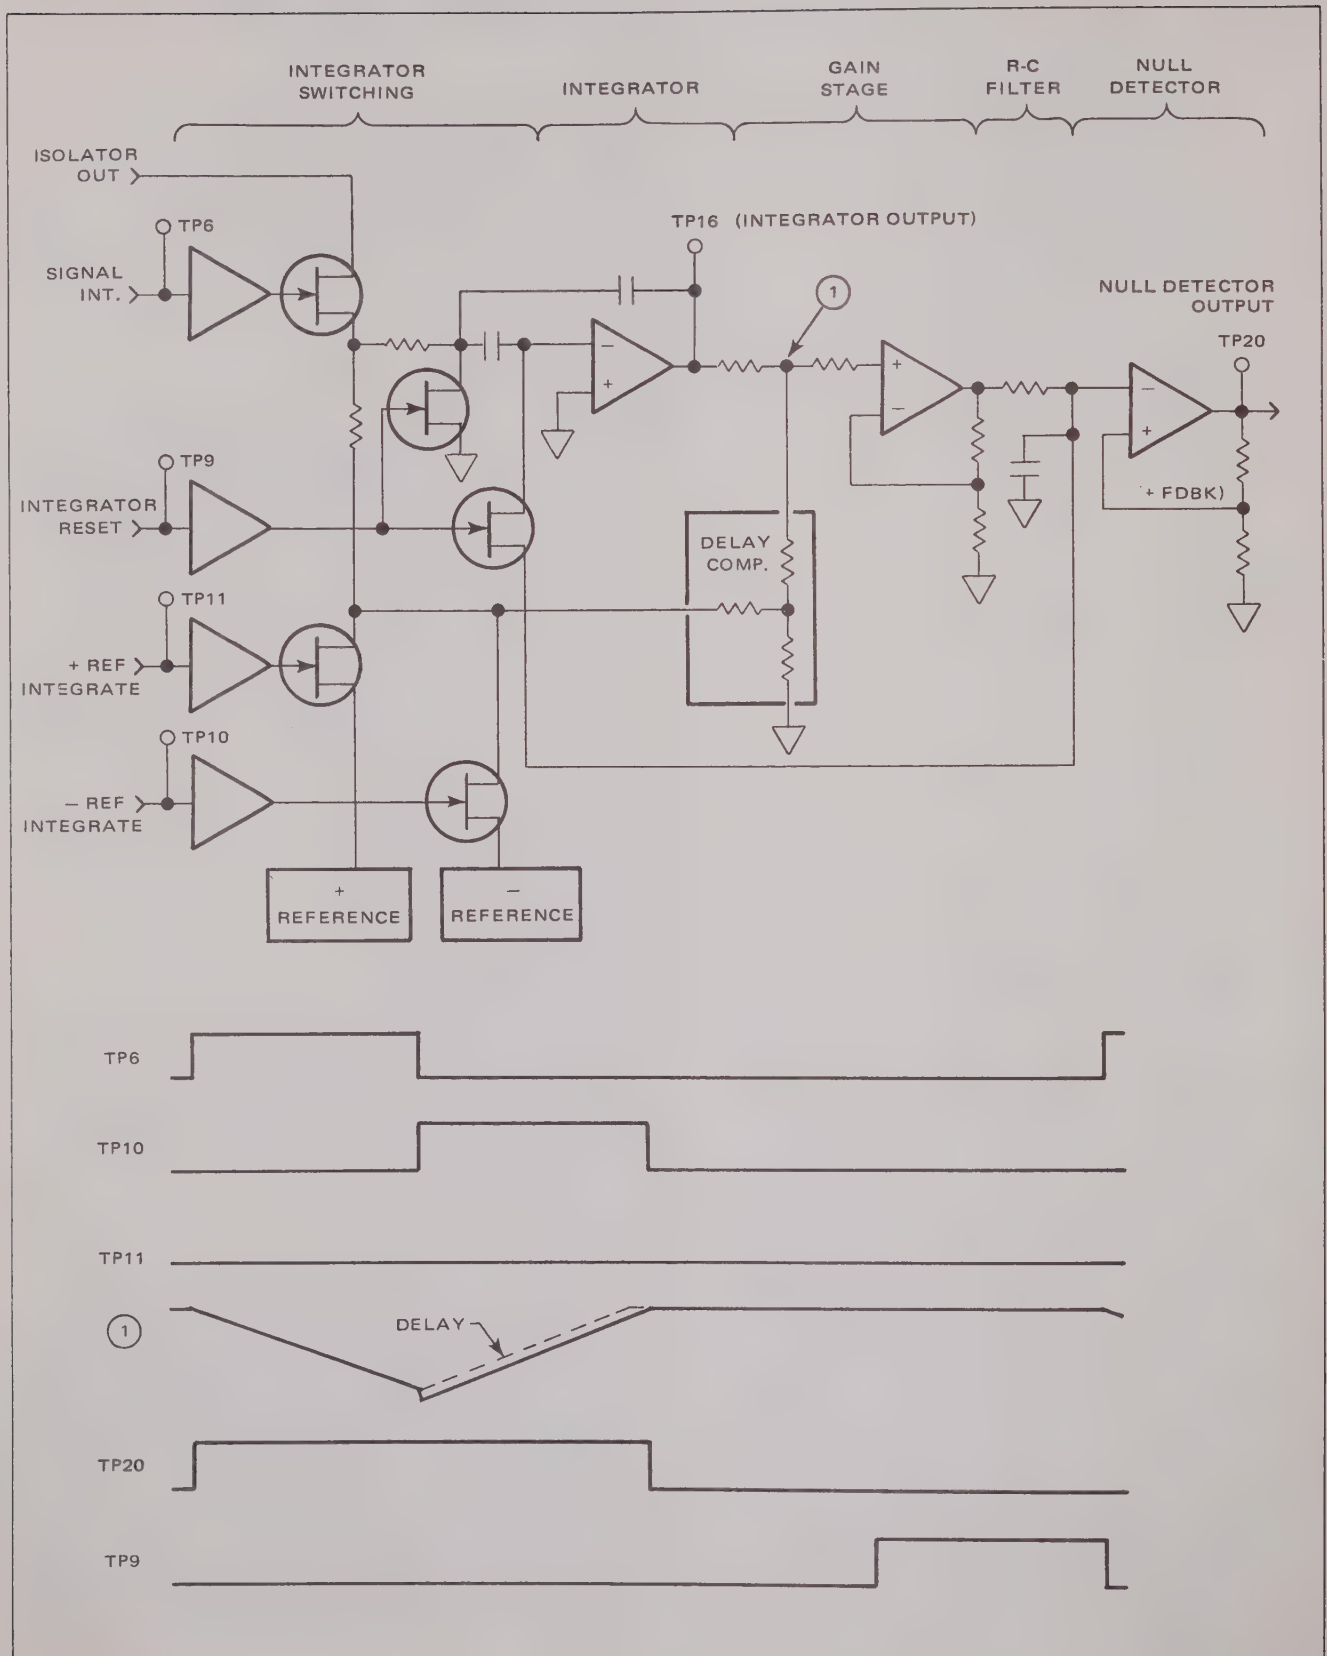

Figure 4.6 - Analog-to-Digital Conversion
4.21 The conversion used in the Model 5000 is an improved version of the basic dual-slope method and is called delayed dual-slope integration. The circuitry used to perform the conversion is shown simplified in figure 4.6 along with the timing of the various control inputs. In this method, the conditioned five volt full-scale output of the isolator is applied to the integrator for a period of 50 milliseconds to develop a potential, proportional to the input signal. A 10 volt reference voltage of the opposite polarity is applied to the integrator; the time required to discharge the integrator is a direct function of the input voltage and is measured and displayed by the digital circuitry. The basic circuitry modification is the addition of an R-C filter between the integrator and null detector circuits. This greatly improves the noise immunity characteristics of the null detector especially with inputs near zero volts. The R-C circuit causes a delay or time shift which requires both a 100 count delay in the counter circuitry and a 5 millivolt analog offset (this offset is provided by the delay compensation circuitry preceding the gain stage).
4.42 The control logic converts the timing signals originated by the LSI to control levels for generating the dual-slope integration sequence. The timing of this sequence is shown in figure 4.6.